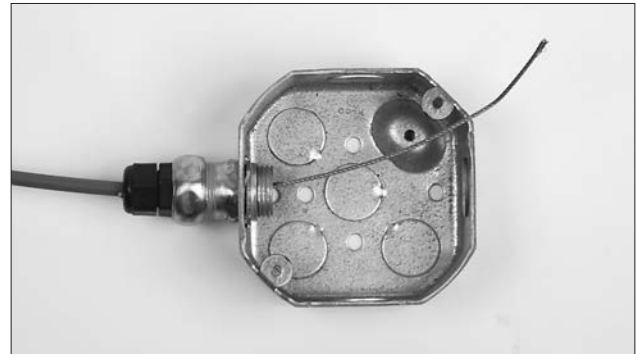

FIGURE 5-70
- The flexible conduit and wire rope should be connected to the electrical box as described in “Connecting the Flexible Conduit to the AUTOMAN Release, Electrical Box, or Mechanical Gas Valve.” See Figure 5-70.